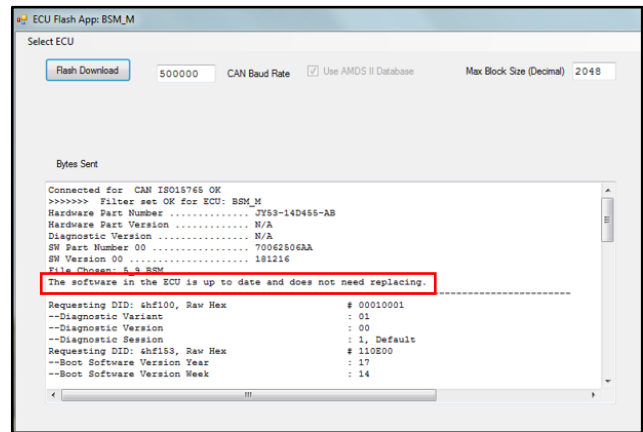

Figure 4
- In the "ECU Flash App" window, check the BSM_M module has the correct version of software installed (refer to Figure 4).